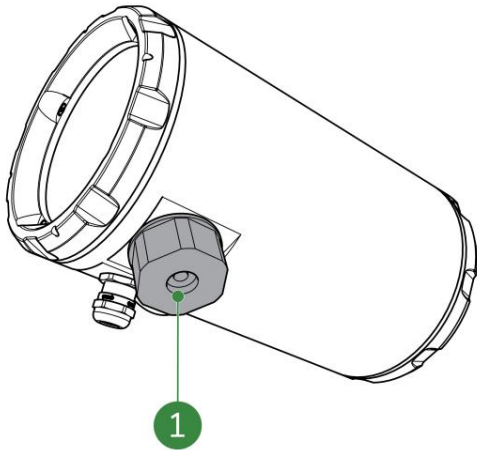

Figure 8-10: Split cable gland for PoE cable
2. Remove the PoE cable (Figure 8-10, pos. 1).